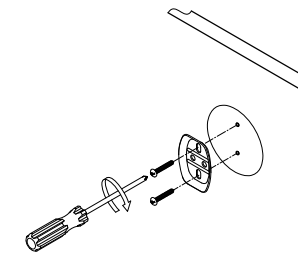

Fig. 5
Step 4. Screw the mounting plate (with the lips facing out) to the wall with the mounting screws (fig 5).